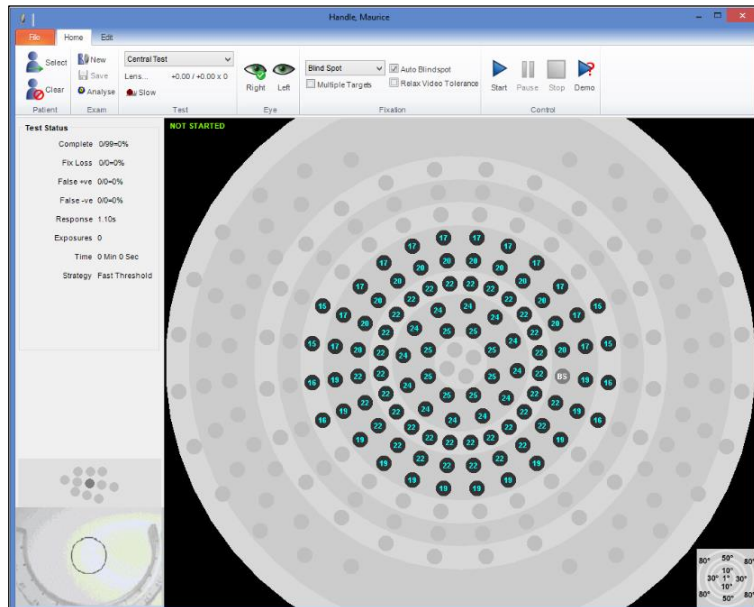

Figure 6. The Test Control screen with Eye Monitor.
With Medmont Studio running, on the **Home** tab, click **Perimetry Exam** to start the Test Control. Figure 6 shows a typical initial test control window including the video Eye Monitor.
The window shown in Figure 6 is a representation of the perimeter. It shows the set of light points that make up the test field defined in the selected Template. Each light point in the field is shown as a small black circle containing a blue number. These are the light points **included** in the field. Light points not in the test are shown as light grey. The number in each circle is the starting exposure level in decibels, and is based on either the patient's previous exam or an Age Normal Hill of Vision distribution.
1. Click on the **New Test**  button to start the Test Control. Figure 6 shows the initial test control screen with a right eye Glaucoma test template selected.